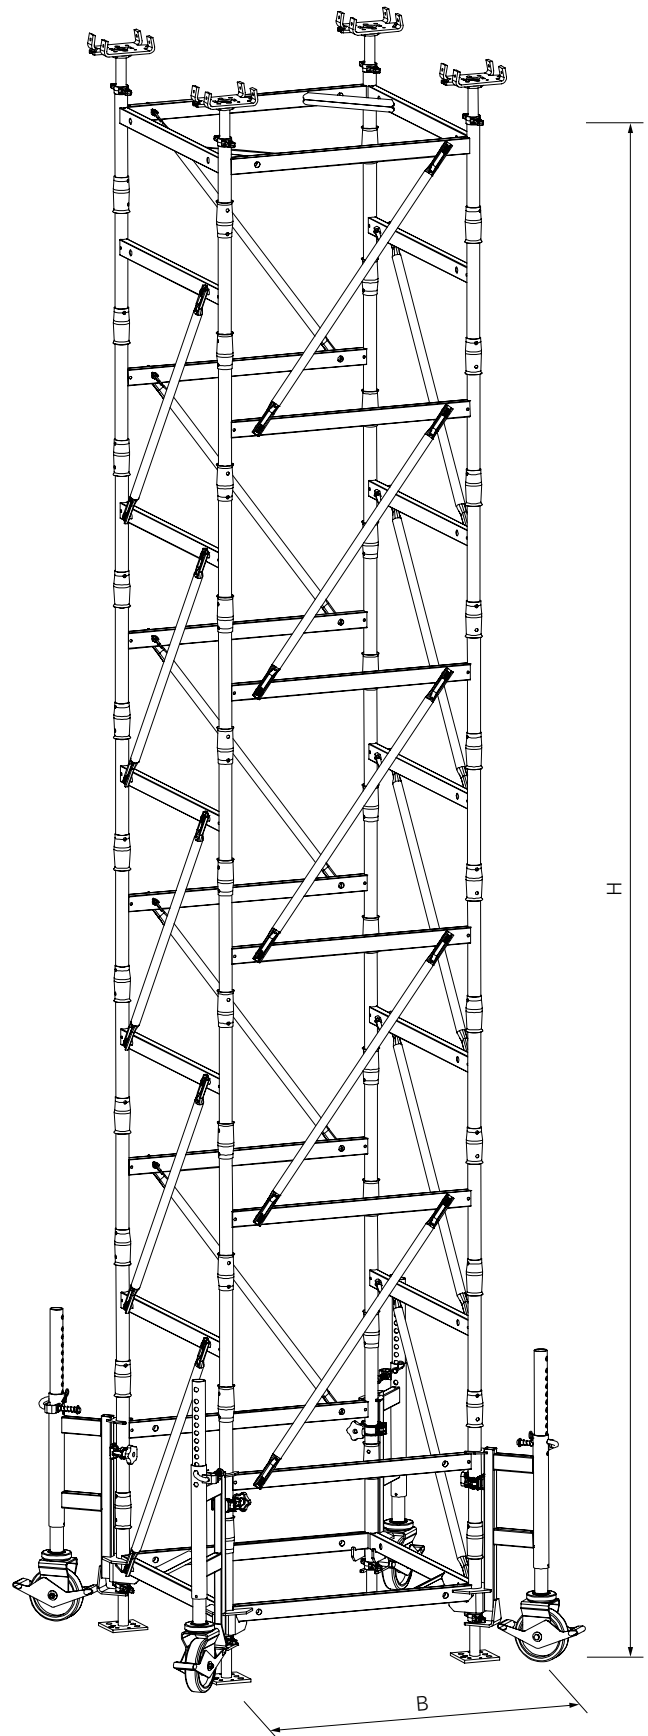

Fig. A3.03
4. Release Base Plates by alternately turning all four Quick Jack Nuts until the weight of the Stacking Tower is moved onto the Transportation Wheels. (Fig. A3.03)